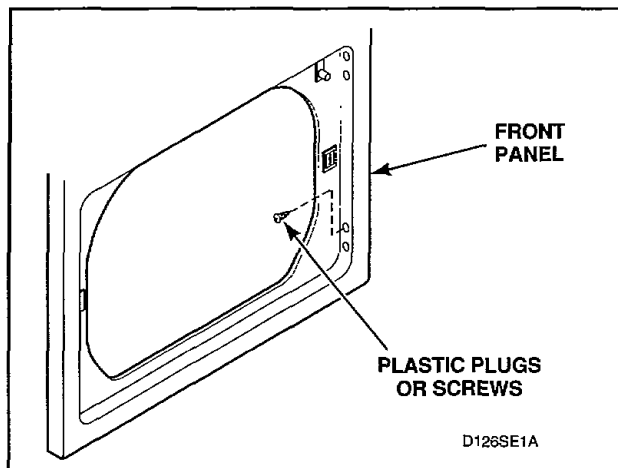

Figure 22
- h. Remove plastic plugs (or screws) from left side of the door opening of the dryer front panel and place them into holes on right side, *Figure 22*.